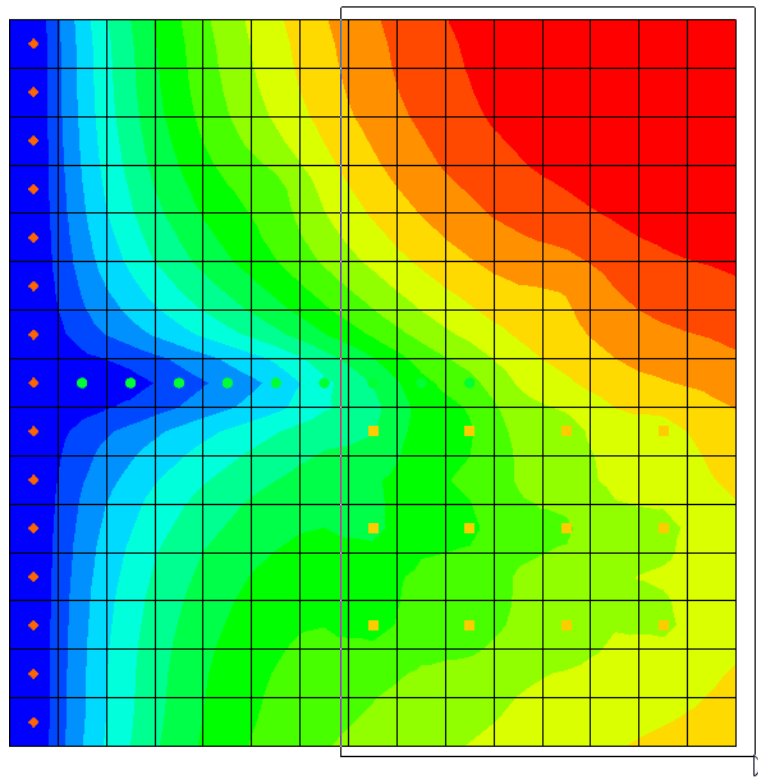

Figure 9 Dragging a box around the rightmost eight columns
3. Using the **Select Cells** tool, select the rightmost eight columns (see Figure 9).